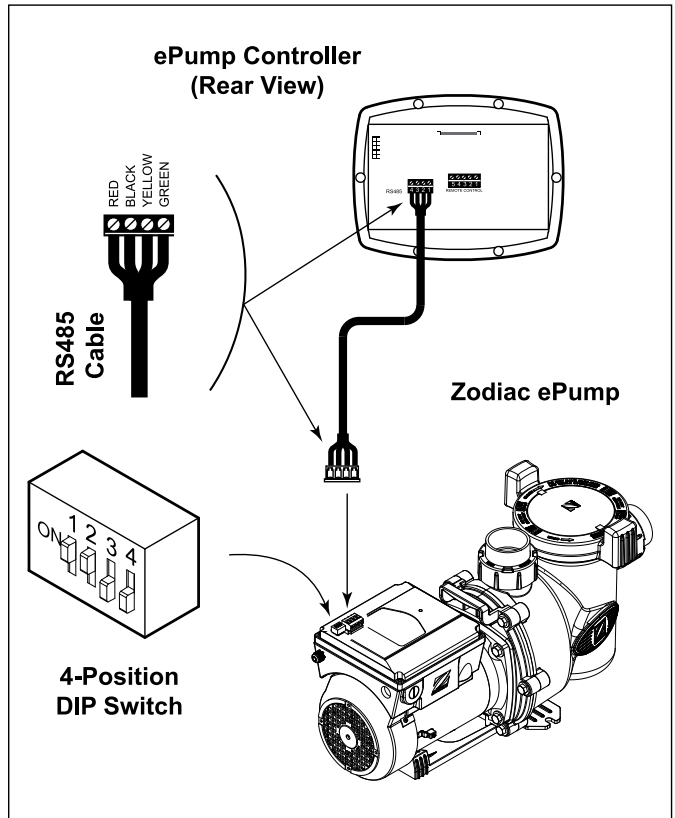

Figure 2. Wiring the ePump Controller to the ePump
3. Slide dip switches 1 and 2 up, so they are in the ON position, and slide switches 3 and 4 down, so they are in the OFF position. See Figure 2. Reattach the cover of the ePump drive electronics.
4. Connect the exposed end of the RS-485 cable to the controller. Match the wire colours with the positions on the connector: 1 - red, 2 - black, 3 - yellow, 4 - green. See Figure 2.